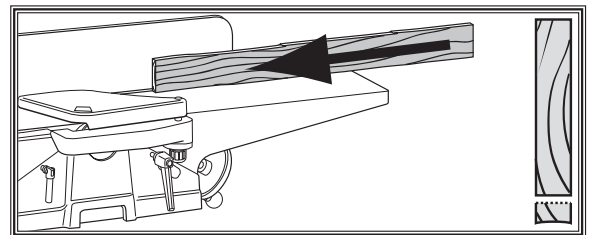

Figure 28. Edge joint on the jointer.
3. **Edge Joint on the Jointer:** The concave edge of the workpiece is jointed flat with the jointer (see **Figure 28**).